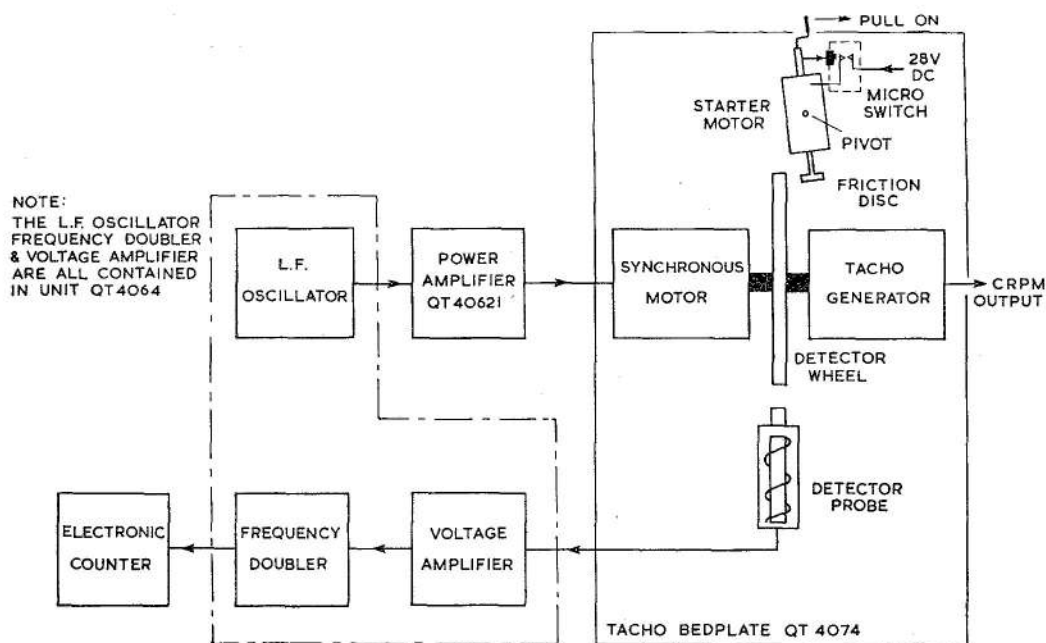

Fig. 4. Engine speed simulator—schematic
7. The simulator is shown in schematic form in Fig. 4 and comprises the following units:—